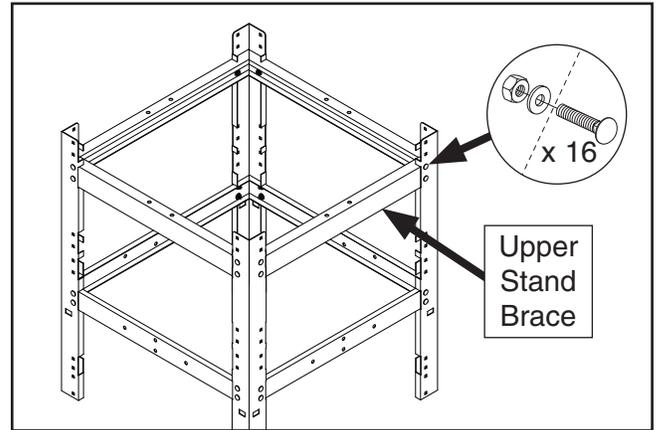

Figure 4. Upper braces attached to stand assembly.
2. Attach upper stand braces to top of assembly from **Step 1**, with (16) $\frac{5}{16}$ "-18 x $\frac{3}{4}$ " carriage bolts, $\frac{5}{16}$ " flat washers, and $\frac{5}{16}$ "-18 hex nuts (see **Figure 4**).